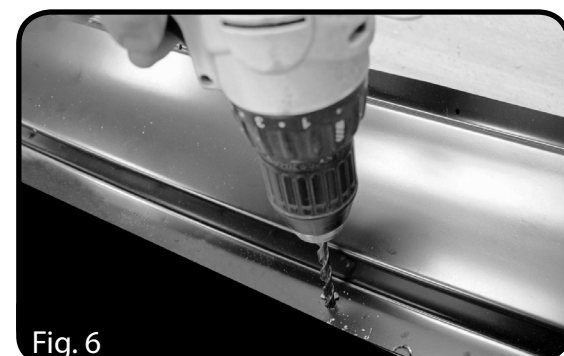

Fig. 6
7. When drilling and tapping the holes be sure that the drill and tap are square to the cover. (Fig. 6)